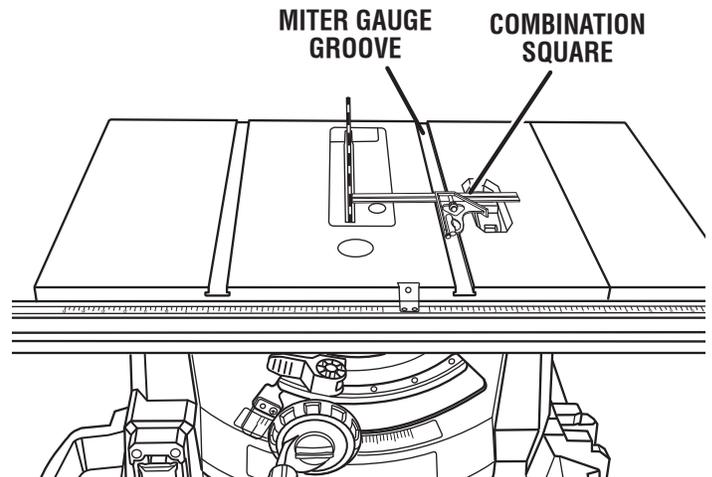

Fig. 40
See Figures 40 - 42.
- Mark beside one of the blade teeth at the front of the blade. Place the body of a combination square against the miter gauge groove as shown in figure 40. Measure the distance from the blade tooth to the right miter gauge groove.